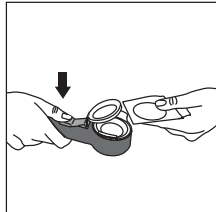

fig. 13
2. Remove the pod filter holder and tip any excess water away. Press the filter holder button and insert the pod into the filter (fig 13).